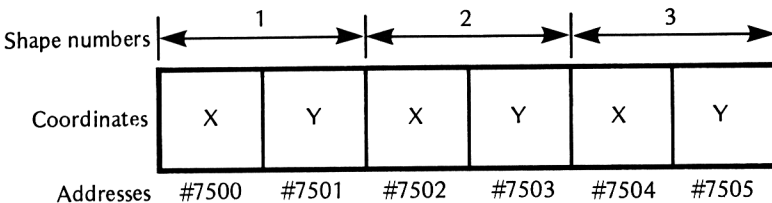

Fig 14.7 Co-ordinate block for Mode 0
A section of memory can be used to store the updated co-ordinates corresponding to the screen positions of various shapes. Since only one byte is needed to store each X and Y co-ordinate in Mode 0, we can set up a sequential block of locations storing the X and Y co-ordinates of each shape. In Program 14.2, the area of memory reserved for this six byte co-ordinate block is #7500 and is shown diagrammatically in Figure 14.7. These locations are accessed sequentially using implied addressing and set up as required prior to displaying an updated screen.
*Lines 240 to 360:* update the co-ordinates of the shapes in the co-ordinate block (see Figure 14.7). The order in which this is done is shape1, shape2, shape3. Implied addressing is used to update these locations. Remember that 2 pixel movement (increment X co-ordinates twice) is required for horizontal movement.